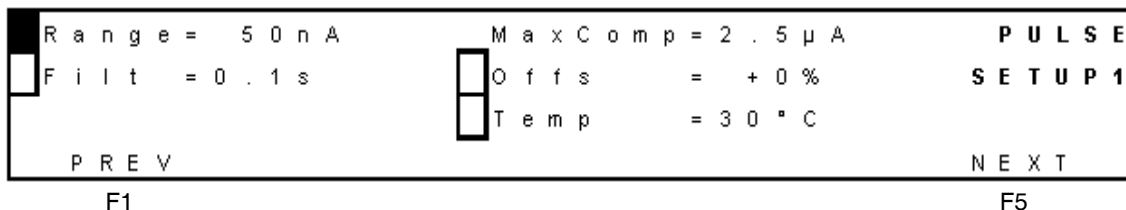

Figure 3-38 Pulse Setup1 Screen
1. From the Main screen, select **F3 PULSE**. The Pulse Setup1 screen appears (Figure 3-38).